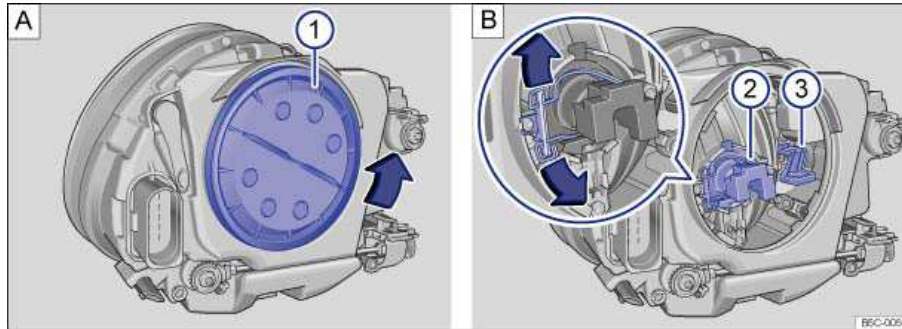

Fig. 169 Left headlight assembly: 1 Cover in the headlight assembly, 2 low beam and high beam headlights, 3 parking light, and daytime running light.
10.	Resecure the clamp by pressing it forward and against the direction of the arrows ⇒ fig. 169 B . Pull the bulb lightly to make sure the clamp is securely fastened.
11.	Replace the plastic cover (1) in the headlight assembly and secure it by turning it clockwise (against the direction of the arrow).